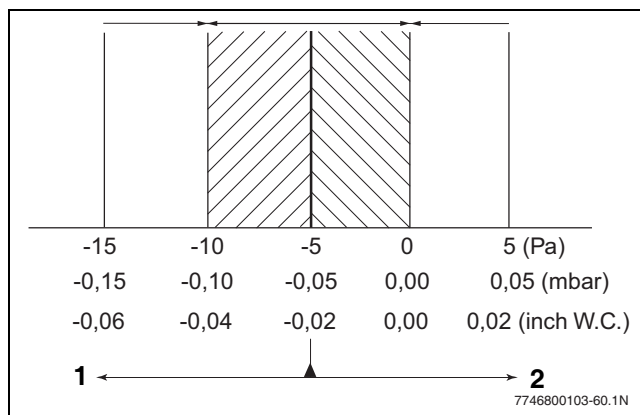

Fig. 67 Air/gas difference at part load
- ▶ Read the differential pressure. The differential pressure ($p_{\text{Gas}} - p_{\text{Air}}$) must be -0.02 inch W.C. (-5 Pa) (± 0.02 inch W.C. = ± 5 Pa) (read-out on pressure gauge: -0.04 – 0 inch W.C. = -10 – 0 Pa) (→ fig. 67).